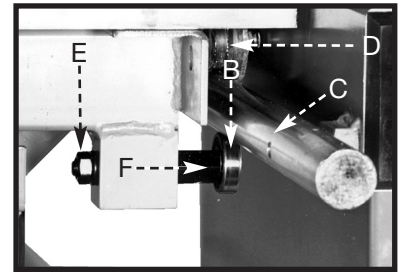

Fig. 35
**NOTE:** The guide rail (C) must be between the two V roller bearings and the two flat roller bearings underneath the table assembly (Fig 35).
- Adjust the two lower bearings, one of which is shown at (B) Fig. 35, so that the upper guide rail (C) will be between the two lower bearings (B) and two upper bearings (D). Adjust the bearing (B) by loosening the nut (E) and turning the eccentric (F) to move the bearing (B) up or down. Adjust the rear bearing in the same manner.